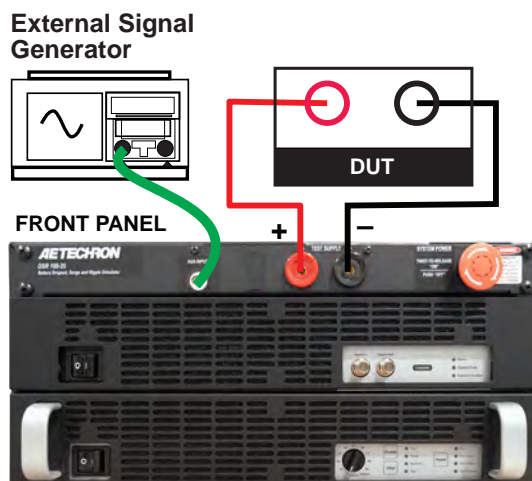

Figure 4.4 – Connecting an External Signal Source
2. **Connect the Signal Source:** Use a BNC cable to connect from the signal output connector on your external signal source to the DSR100-25's BNC connector labeled Aux Input. See **Figure 4.4**.
3. **Connect the Outputs:** Using the supplied mating output connectors and wiring appropriate for your application, connect from the DSR 100-25's positive and negative test supply connectors to the device under test. See **Figure 4.4**.